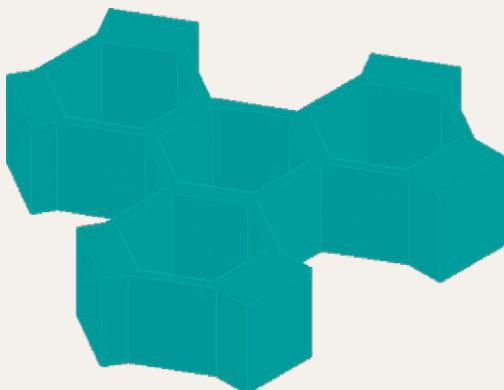

Fig. 12.45 Exercise 3
3. Fig. 12.45 shows the 3D model from Exercise 2 acted upon by the **Presspull** tool from the **Home/Create** panel.
With the 3D model from Exercise 2 on screen and using the **Presspull** tool, construct the 3D model shown in Fig. 12.45. The distance of the pull can be estimated.